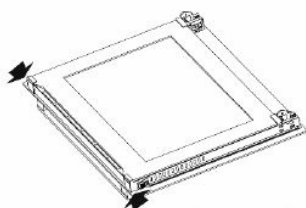
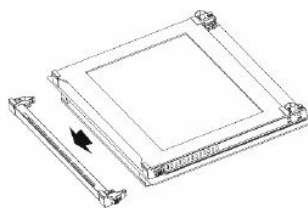
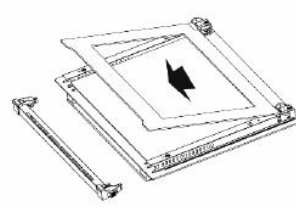

Figure 10
Figure 11
Figure 12
1. Press the plastic latches on the left and right sides as shown in Figure 10 and lift the the profile by pulling it towards you as shown in Figure 11. The glass will be free after the profile is removed as shown in Figure 12. Carefully pull the glass that has become free toward you. If necessary, the middle glass can also be removed in the same way. The outer glass is fixed to the oven door profile. You may easily clean the glasses after they have been separated. Once the cleaning and maintenance is complete, you can replace the glasses and the profile by performing the removal procedure in reverse. Make sure that the glass is inserted in the correct direction and that the profile is seated properly.